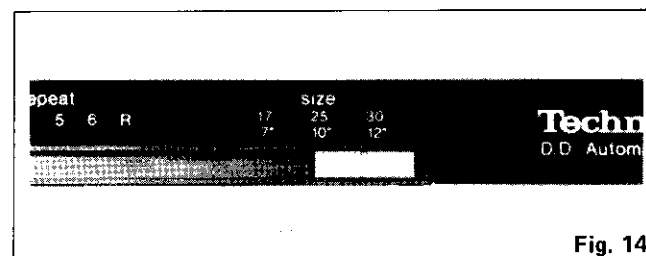

Fig. 14
2. Set the record size select knob to the diameter of the record (7" [17 cm], 10" [25 cm], or 12" [30 cm]) you wish to play. (See Fig. 14.)